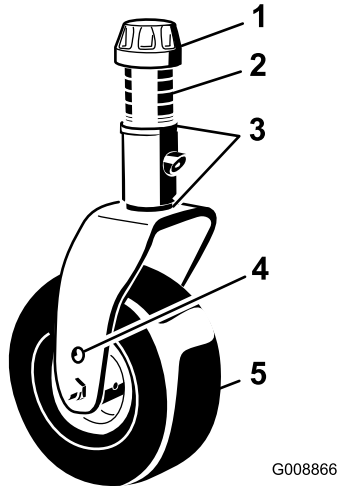

Figure 17
5. Remove the tensioning cap from the spindle shaft and slide the spindle out of the caster arm (Figure 17).